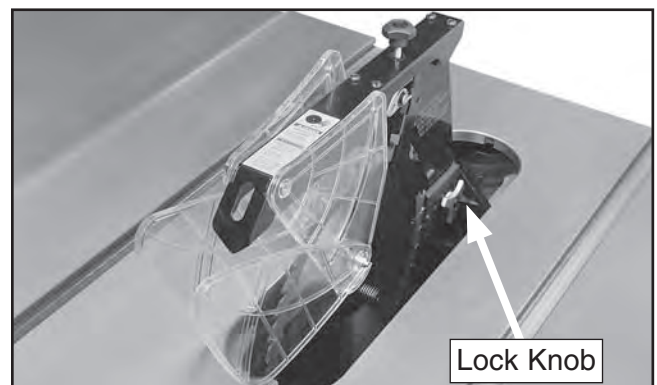

Figure 49. Location to secure blade guard.
3. Insert the spreader into the bracket slot and tighten the lock knob shown in **Figure 49** to secure the spreader.